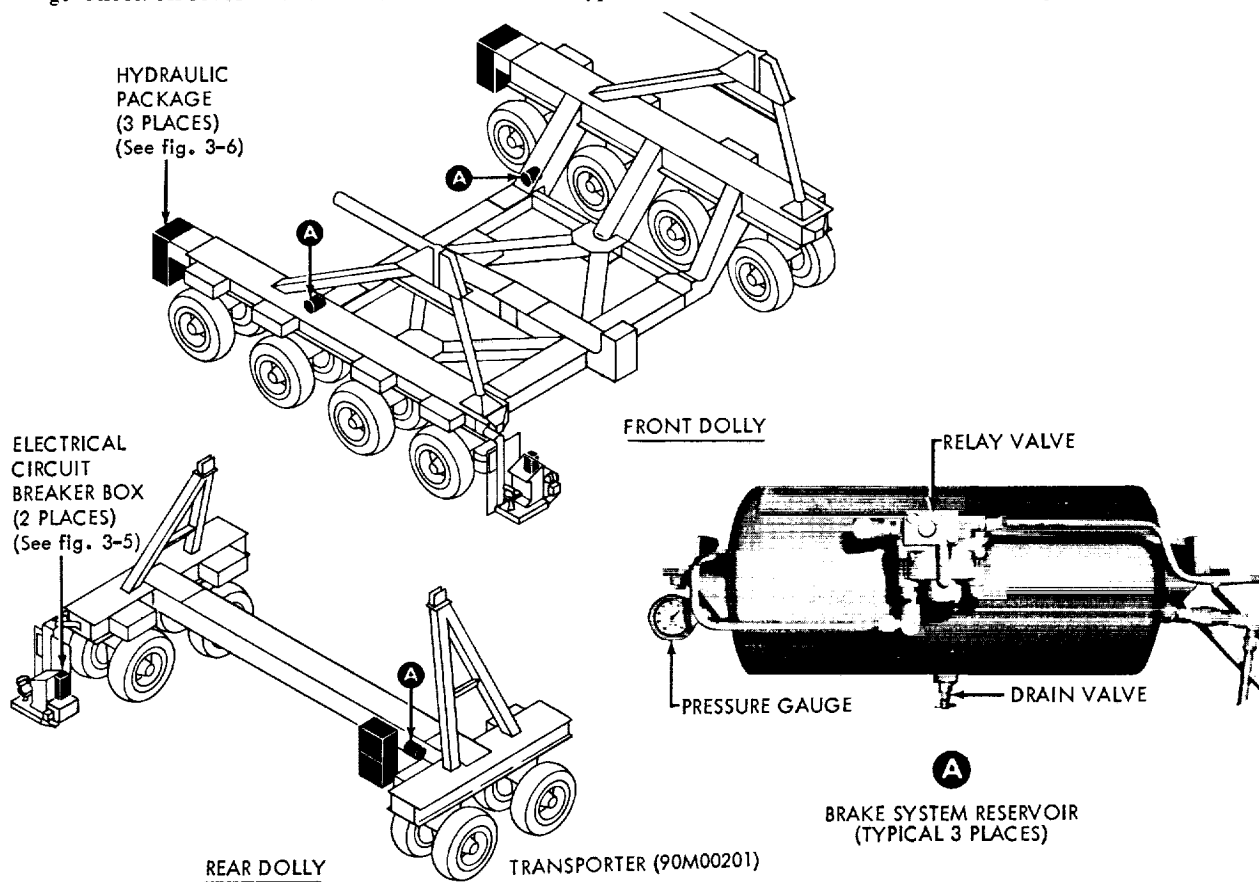

Figure 3-3. Checkout of S-IC Transporter
3-10. CHECKOUT OF S-IC TRANSPORTER. Perform the following checkout prior to operation of the equipment and before coupling with the prime mover per figure 3-3 as follows:
- c. Check air pressure gage on each of the three transporter reservoirs for 103 (± 22) psig per figure 3-3.
- d. Drain condensate from the three reservoirs by momentarily opening the drain valves per figure 3-3.
SEE FIGURE 3-3